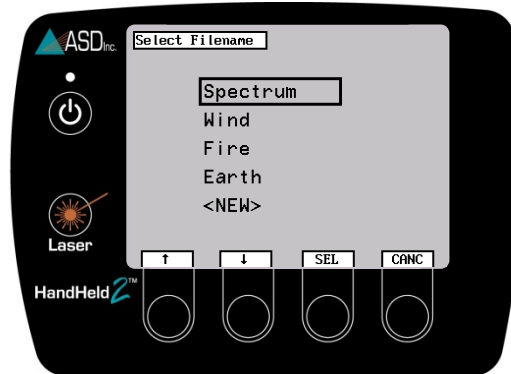

Figure 2-27: Navigate to "Spectrum" Filename
- Step 4 If this is the instrument's first time in use, press *SEL* to select a default name, for example, "Spectrum" (Figure 2-27).